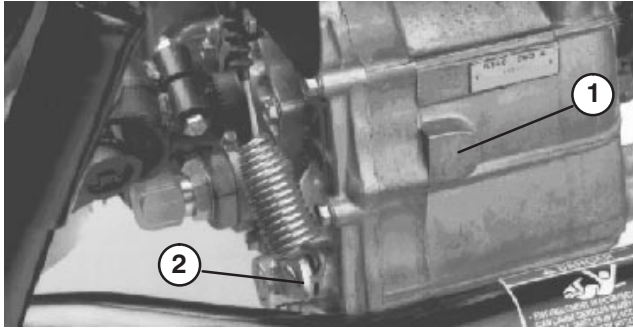

Figure 38
CHANGING TRANSAXLE / HYDRAULIC FLUID (Fig. 38)
2. Remove drain plug (Fig. 38) from side of reservoir and let hydraulic fluid flow into drain pan.